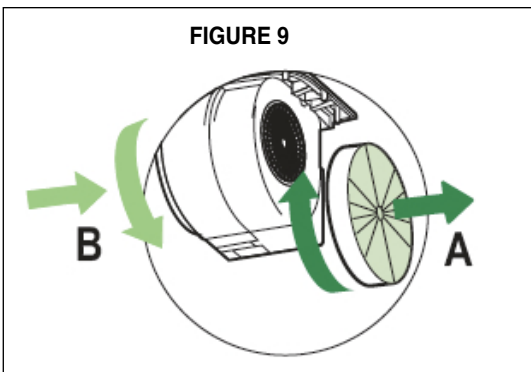

FIGURE 9
3. Attach one charcoal filter to each end of the blower. Each charcoal filter attaches to the grid on the side of the blower. Rotate the filter clockwise to install and counterclockwise to remove (**as indicated in FIGURE 9**).